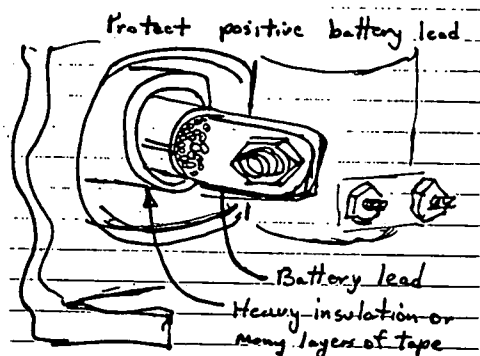

FIGURE 23. Insulating Positive Battery Terminal Connection
1. Connect positive battery cable to large bottom terminal on start solenoid. It is located on the front of the generator set (below control) as shown in Figure 23 and insulate the positive terminal.